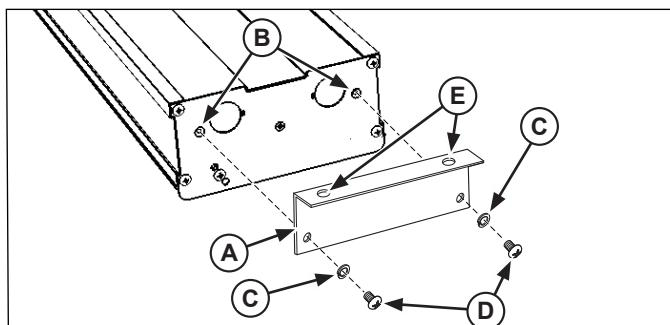

Figure 2. Installing Top Mount Brackets.
- Secure the top mount bracket (A) to the mounting holes (B) using lockwashers (C) and screws (D). Repeat on the other end. See Figure 2.